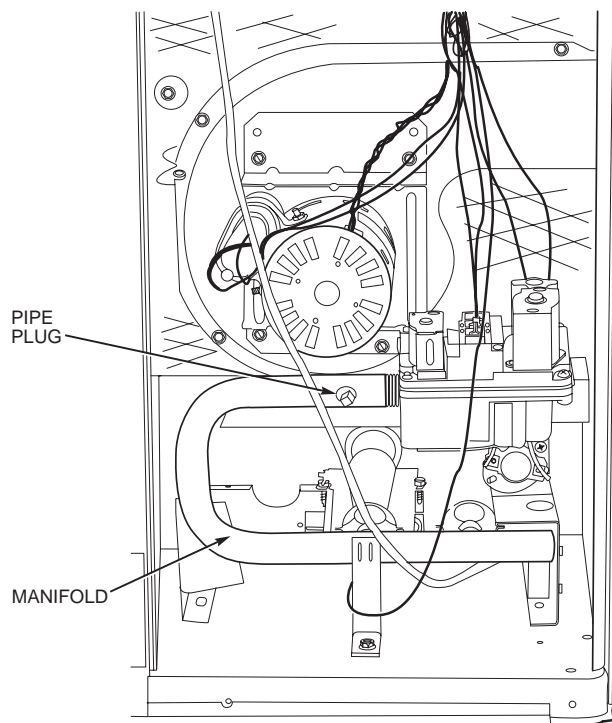

Fig. 20 — Burner Assembly
2. Remove pipe plug on manifold (see Fig. 20), then connect manometer at this point. Turn on gas to unit.
2. Remove pipe plug on manifold (see Fig. 20), then connect manometer at this point.